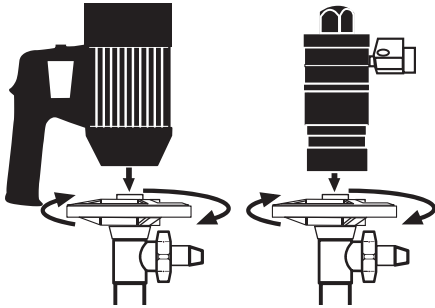

Figure 1
3. Couple the motor to the pump tube by using the Hand Wheel. (See figure 1).